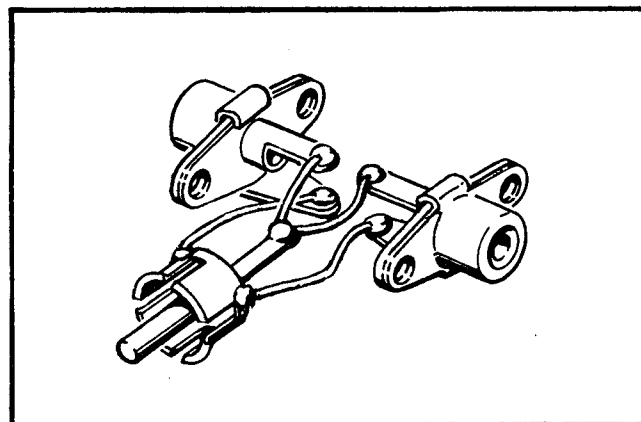

Figure 1. I.F. Output Adaptor
1. REMOVE the three wires between the terminals of the MPX MATRIX board and the MPX OSCILLATOR board (See FIG.1). Also remove one side of resistor R-25.
1. Construct an adaptor as shown in Figure 1.